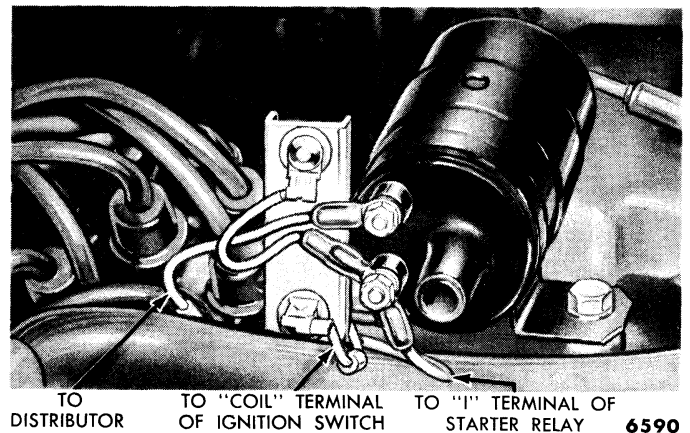

Fig. 1—Resistor Installation—Typical
The primary circuit resistor is mounted next to the ignition coil (fig. 1). The purpose of the resistor is to control high voltage in the primary circuit while the engine is operating. During starting, the resistor is cut out of the circuit allowing the full voltage available from the battery to act upon the primary circuit, thus providing excellent starting qualities.
(2) **INSTALLATION.** Place the coil and resistor in position and install the mounting screws. Insert the high tension lead into the coil socket, and connect the primary wires to the coil and resistor. Be sure the wires are properly installed as shown in fig. 1. Push the weather seal tightly against the coil.